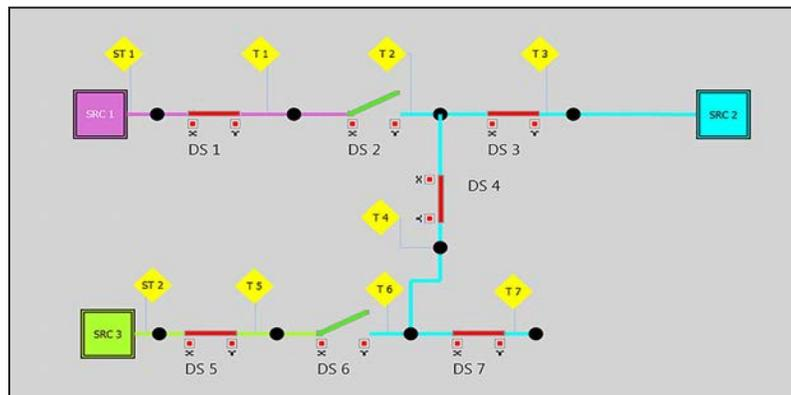

**Figure 60.** A fragmented circuit fails validation because not all sources are connected to the circuit.
**Note:** If all sources are not connected to the circuit, validation will show the error: Fragmented Circuit. Fragmentation errors are defined in the Errors and Warnings dialog box. See Figure 60 for a fragmented circuit example.